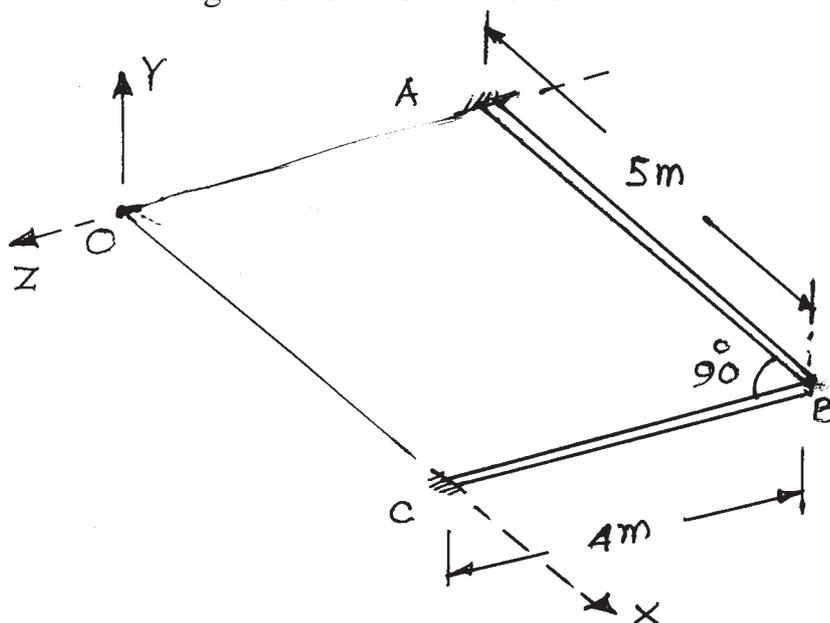

FIGURE 5
- b) Using structure approach, develop only stiffness matrix of grid structure shown in figure 5.  $GJ = 0.4 EI$ . & Uniform for all members. [10]
**Q10)** Analyse & draw bending moment diagram for grid structure of Q.9(b) as shown in figure 5 if it carries vertical downward load of 50 kN at B. Use stiffness matrix method. **[18]**
- b) Write a CNC program by using G and M code for Fanuc controller for the contour cutting and through drilling for the component shown in Figure 5. use the concept of subprogram for contour cutting such that depth of cut per pass is 1 mm. Use canned cycle for drilling operation. Raw material is 120 mm × 100 mm × 5 mm. Assume suitable data for cutting parameters like feed, speed coolant etc for machining mild steel.